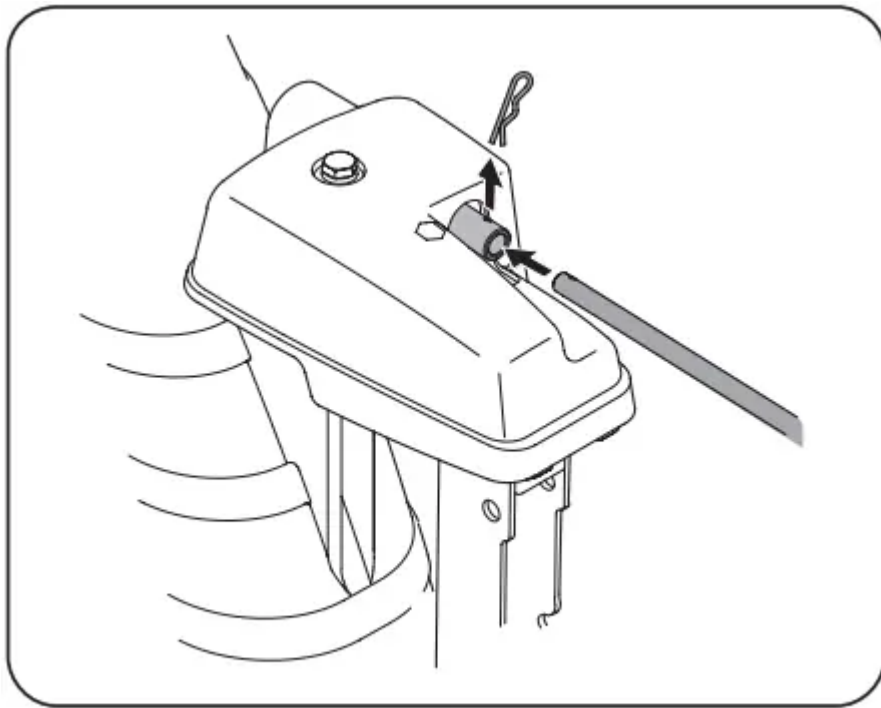

Figure 17
5. Remove hairpin clip (a) from rear of chute control head. See Figure 17.
6. Insert chute control rod (b) into rear of chute control head. See Figure 17. Secure chute control rod to chute control assembly with hairpin clip removed in Step 5